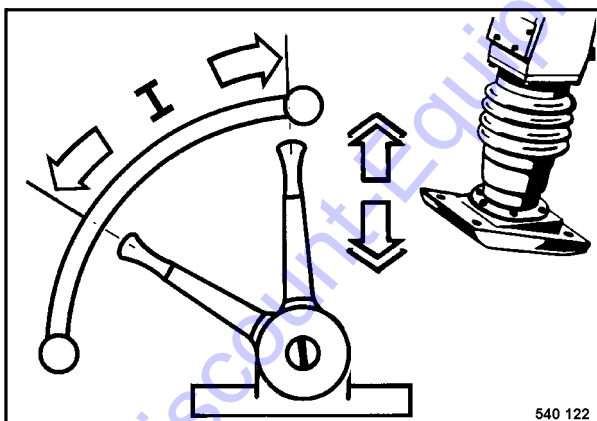

Fig. 2
- In order to achieve a smooth running of the machine adjust the throttle lever in the range I (Fig. 2), depending on the condition and the density of the soil.